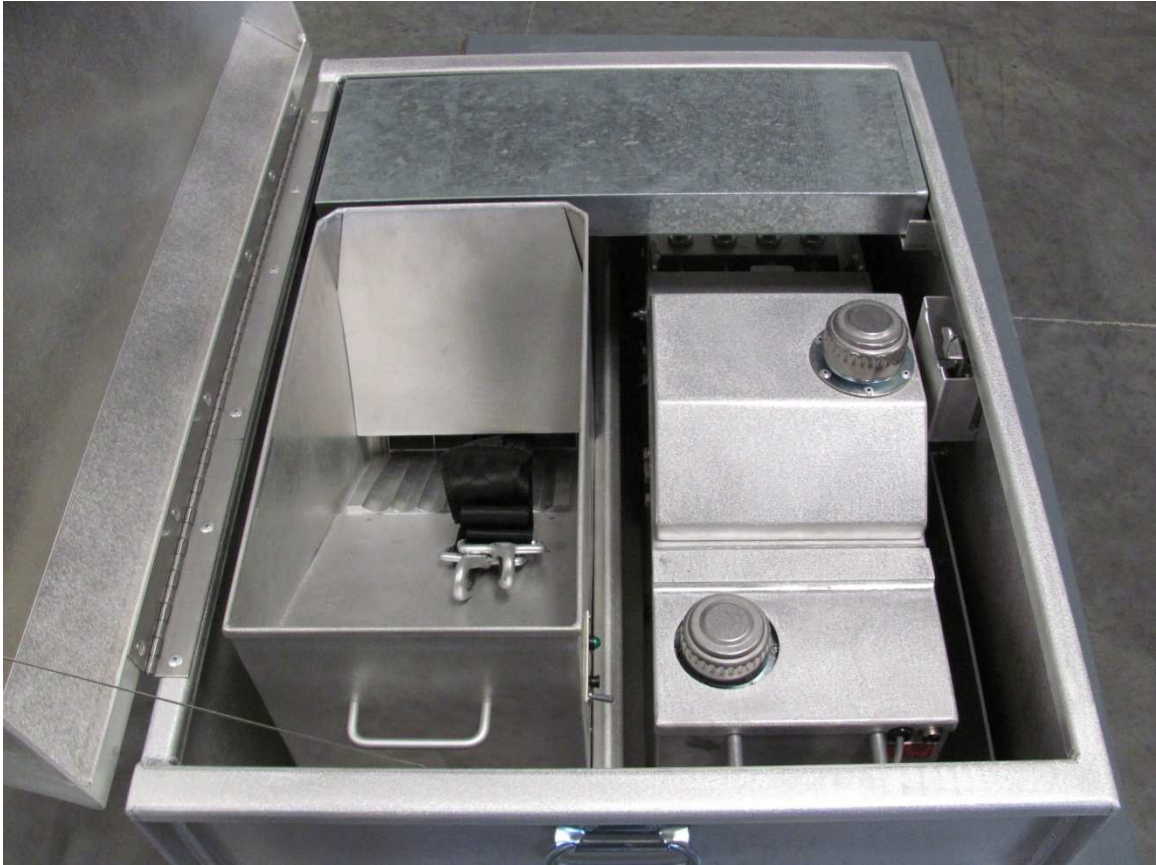

Figure 1
3. There are six components of the PSD in the transit case. *See figure 1 on the next page.*